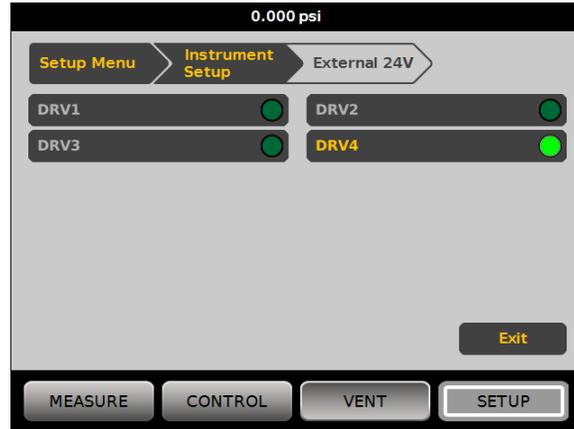

Figure 19. External 24V Screen
Figure 19 shows the status of the drivers.
- 20 MPa (3000 psi) Test Port Isolation Valve (part number 4581266) contains a single isolation valve and electrical connection. Does not include fittings or hoses. See Figure 19.